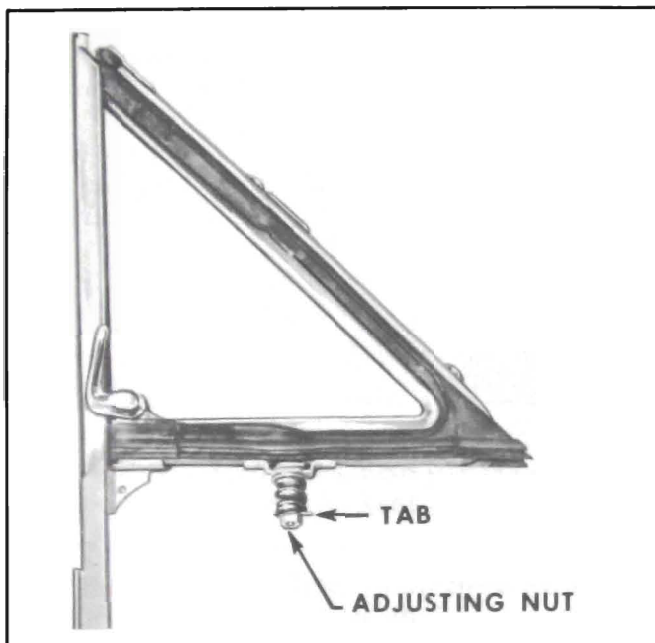

Figure 13-41—Ventilator Friction Adjustment
2. The effort required to open or close the ventilator may be increased or decreased by bending up washer tab and tightening or loosening the adjusting nut. See Figure 13-41.